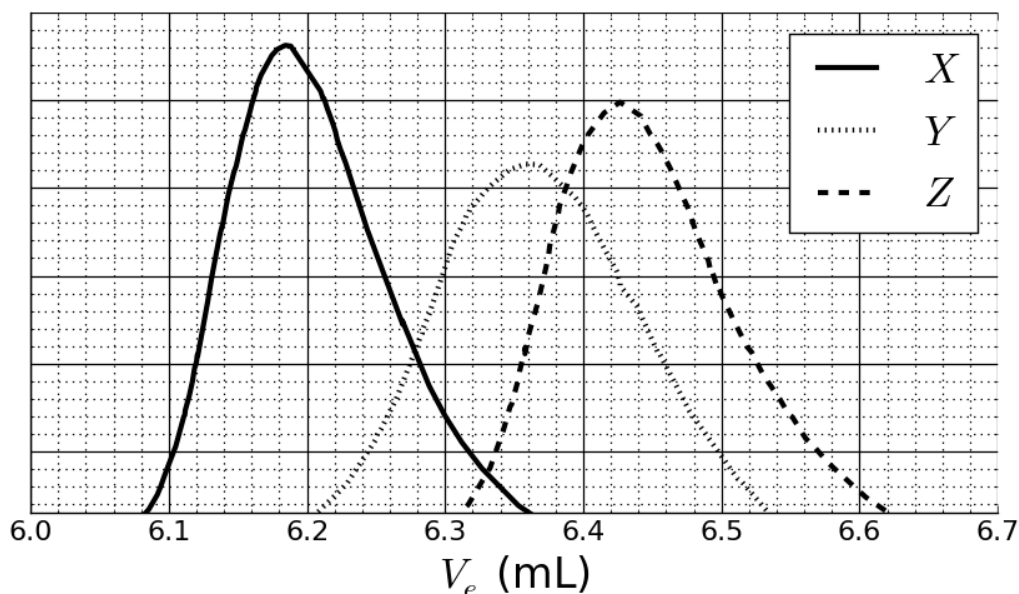

Fig. 2 – SEC chromatograms of **3a**, **3b** and **3c** as a function of the elution volume,  $V_e$ .
This reaction of **1** with **2** yielded the copolymers **3a** after 20 h, **3b** after 25 h and **3c** after 30 h of reaction at 40 °C. Results of size-exclusion chromatography (SEC) experiments are presented in Fig. 2.
6. **Match** the signals in Fig. 2 with the copolymers **3a**, **3b** and **3c**.
7. Based on the SEC curves in Fig. 2 and 3, **determine**  $V_e$  of the polymer that corresponds to curve X and use it to **estimate** the degree of polymerization  $m$  of its second block. **Detail** your calculation; you may use a calculator or plot a graph.